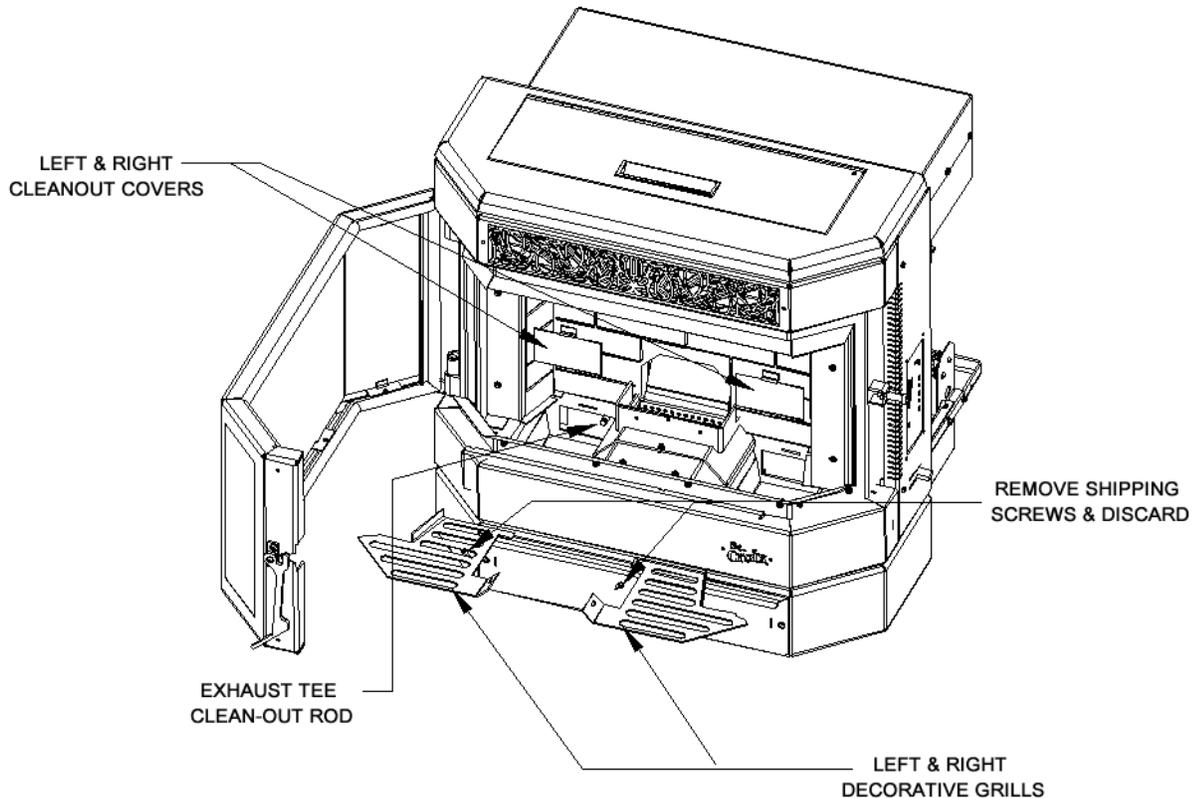
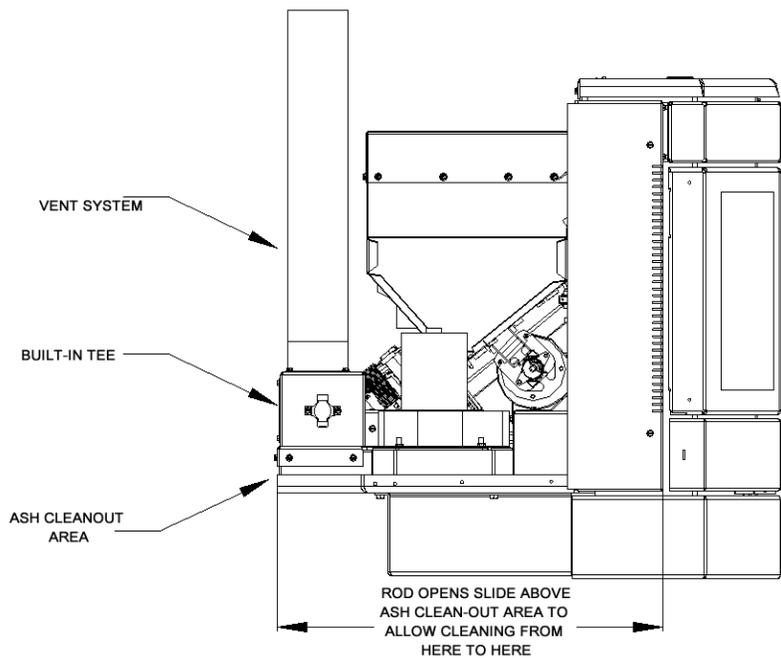

Figure 27
Figure 28
Figure 27 also shows the location of the Exhaust Tee clean-out rod. The insert has a built in cleanout to be able to vacuum the buildup that accumulates in the vent system from the front of the unit without having to pull the unit from the fireplace. Figure 28 shows the area that can be reached with a vacuum cleaner without having to pull the insert from the fireplace. Cleaning this area on a regular basis will prevent the vent system from becoming plugged with fly-ash. The recommended size of the hose to use for vacuuming this area is 1.25" outside diameter.
5. **Exhaust System.** See Figure 27, 28 and 29 for information on cleaning fly ash that collects in the vent system. Periodic cleaning of the exhaust system is required. Under certain conditions chimneys may plug up rapidly. Dirty/High moisture content Corn, Wheat, Rye Cherry Pits or Distiller's Grain require more frequent chimney cleanings. The products of combustion will also contain small particles of fly ash. The fly ash will collect in the exhaust vent and restrict the flow of the flue gases. Ask the dealer for suggested frequency of cleaning, equipment needed and procedures for cleaning. Check the Exhaust system at least once every two months during the heating season to check the amount of ash that accumulates in the elbows or tee's of the exhaust system to determine the frequency of cleaning. **See Page 25 "Preventing Chimney Fires"**.
1. **Spring Shutdown.** After the last burn in the spring let the unit cool down. Remove all fuel from the hopper and the auger. Thoroughly clean the burn pot, burn pot box, ash pan and ash traps behind the ash pan. (To locate the ash traps see figure 27 on page 44)